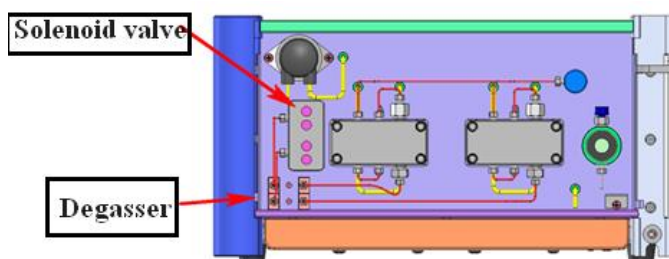

Figure 5-14 Connecting pipes on the front panel
- 4) Install the wiring harness of solenoid valve B on the right hole of the wiring harness of solenoid valve A in a red-black sequence, as shown in the following sequence. Install it on the front panel, as shown in Figure 5-14.